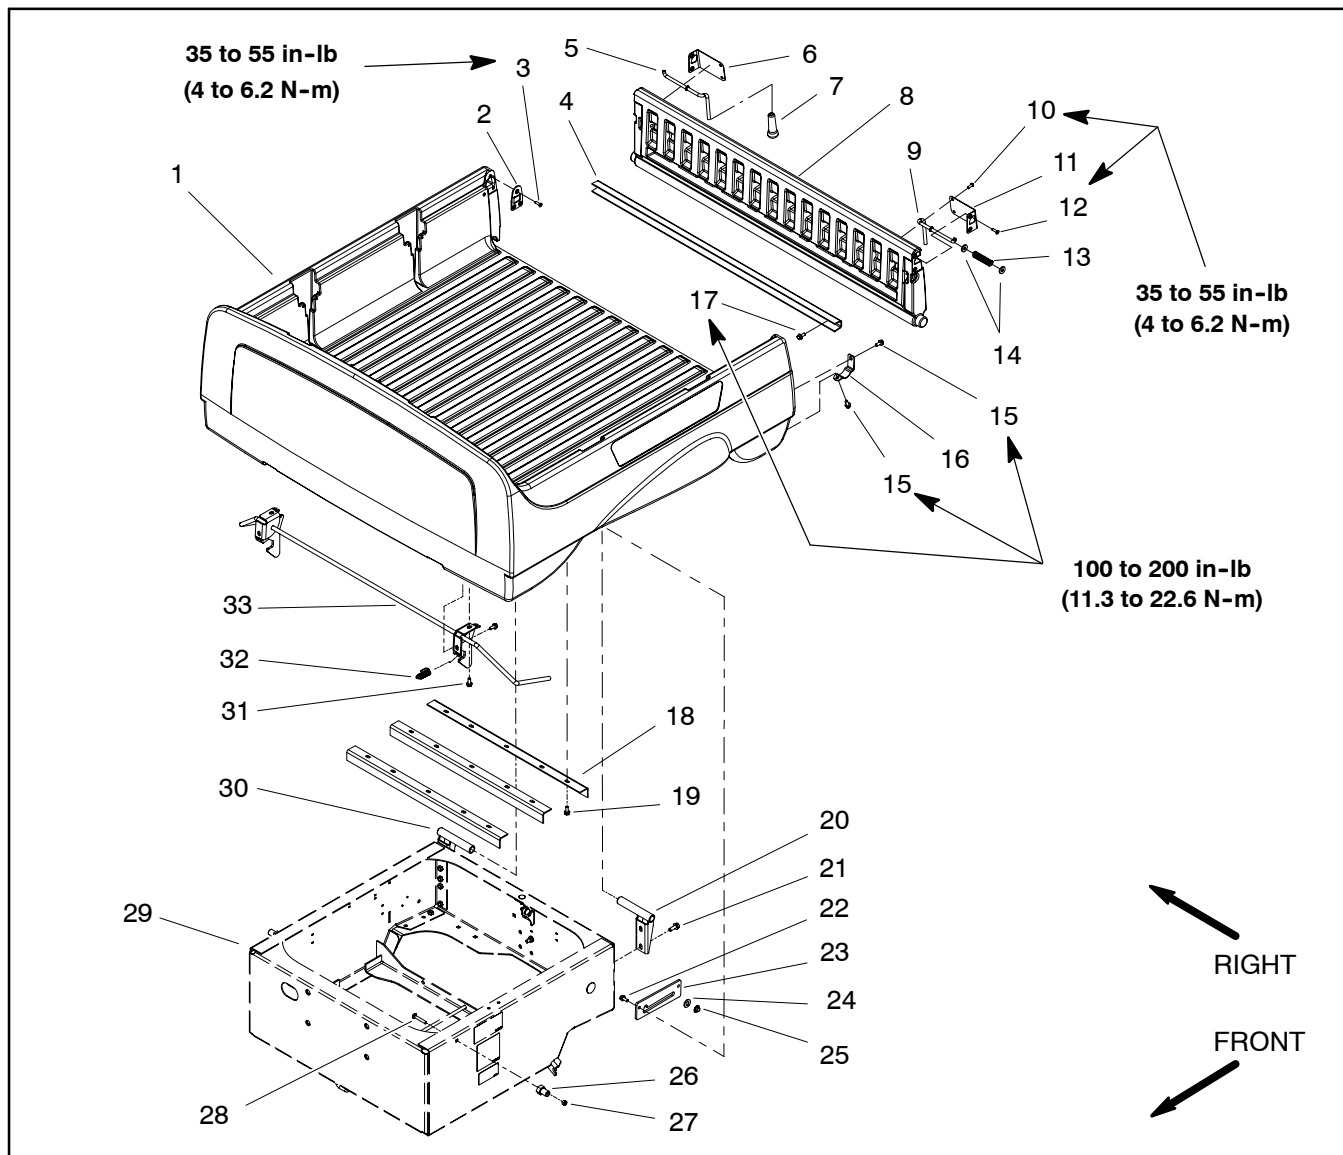

Figure 18
Removal (Fig. 18)
2. Remove two (2) flange head screws (item 21) that secure RH and LH pivot brackets (items 20 and 30) to the rear frame.
3. Release latch rod (item 33) from the latch pins (item 26). Remove cargo box from the frame. Disassemble cargo box as necessary using Figure 18 as a guide.
Installation (Fig. 18)
1. Assemble cargo box using Figure 18 as a guide.
2. Position cargo box to the frame locking the latch rod (item 33) to the latch pins (item 26).
3. Secure both pivot brackets (items 20 and 30) to the rear frame with flange head screws (item 21).